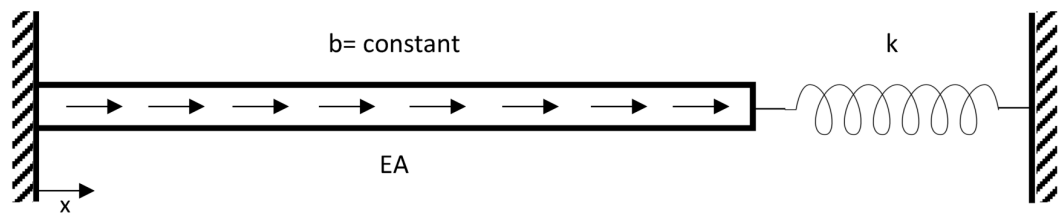

Figure 1: Spring-supported bar between two vertical walls
As shown in Fig. 1 below, a horizontal, spring-supported bar is placed between two vertical walls. The bar is firmly attached to the left vertical wall, and in contact with an ideal, linear spring on its right side. The spring is firmly attached to the right vertical wall. The length of the load-free bar is L . The bar is loaded by a constant distributed body force $b(x) = b_0$. The units of $b(x)$ are force per unit length. Assume that the bar is materially homogeneous, i.e. of constant Young's modulus E , prismatic, i.e. of constant area A , and described by a linear elastic constitutive law. The mass density of the bar is ρ . The elastic spring-constant is k . You can assume that when $b_0 = 0$, the spring is in equilibrium.
- (a) Based on the loads shown in Fig. 1, state whether the spring will be under compression or extension. What is the magnitude and direction of the force that the spring exerts on the bar?